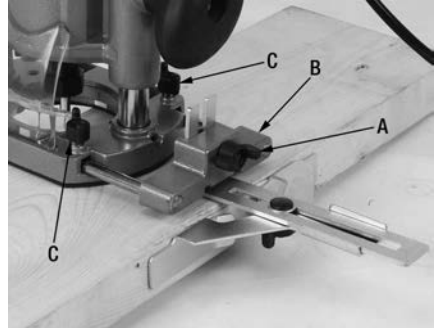

Figure 14
Loosen the plunge base lock knob (A) Fig.14 found on the guide holder (B). Slide the straight guide under the lock knob and tighten to secure in place. Loosen the wing nut on the straight guide and adjust the distance between the bit and the straight guide.